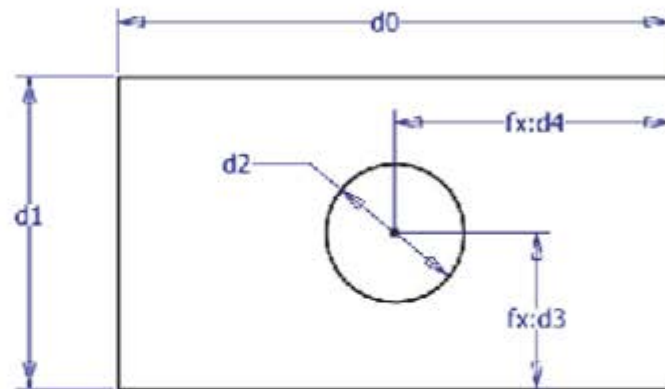

Figure 8–43
7. Which of the following best describes what **fx** is identifying in the sketch shown in Figure 8–43?